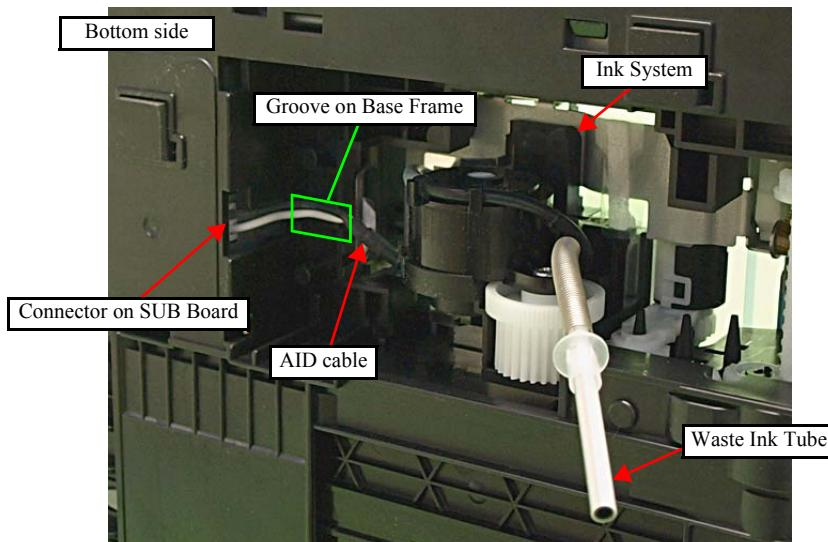

Figure 4-84. Removing the Ink System (2)
- Disconnect the AID cable from the connector on the SUB Board.(See Fig. 4-84.)
6. Connect the AID cable to the connector on the SUB Board, and route the cable through the groove on the Base Frame. (See Fig. 4-84.)